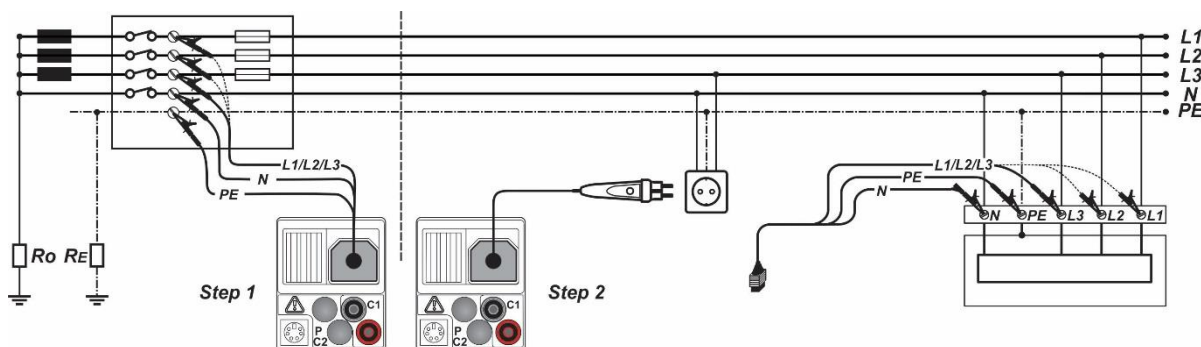

Figure 5.33: Phase-neutral or phase-phase voltage drop measurement – connection of plug commander and 3-wire test lead
- **Connect** the test leads to the origin of electrical installation (see Figure 5.33).
- **Connect** the test leads to the tested points (see Figure 5.33).